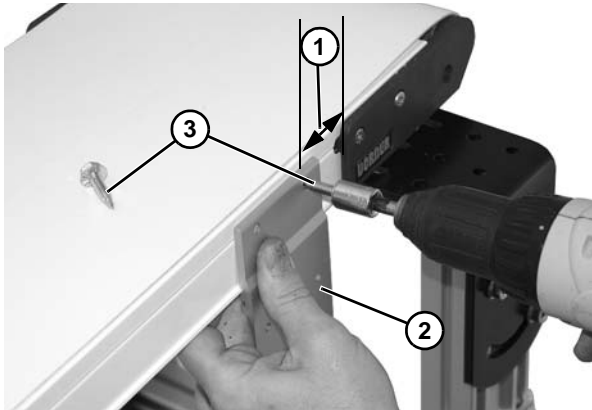

Figure 10
- Measure an equal distance (**Figure 10, item 1**) from end of head plate (on both sides of conveyor) and mark placement of mounting brackets (**Figure 10, item 2**). Fasten mounting brackets to conveyor with mounting screws (**Figure 10, item 3**) following proper methods of attachment instructions on page 10.